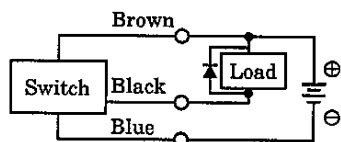
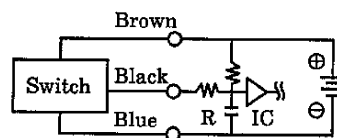

Fig.3 An example of using inducing load together with surge absorptive element (diode). (Hitachi Mfg. made diode V06C or equivalent is recommended.)
Fig.4 An example of using capacitor type load together with current regulating resistor R. Comply with the following formula to figure out required R.
- With an inductive load (relay, electromagnetic valve), surge voltage occurs when the switch is turned off. To protect the circuit, be sure to install a protection circuit shown in Fig. 3.
- With a capacity load (capacitor), rush current occurs when the switch is turned on. Be sure to install a protection circuit shown in Fig. 4.
If the total length of the wires exceed the figures of Table 1, install the contact protection circuit as shown in Fig. 3 and Fig. 4.